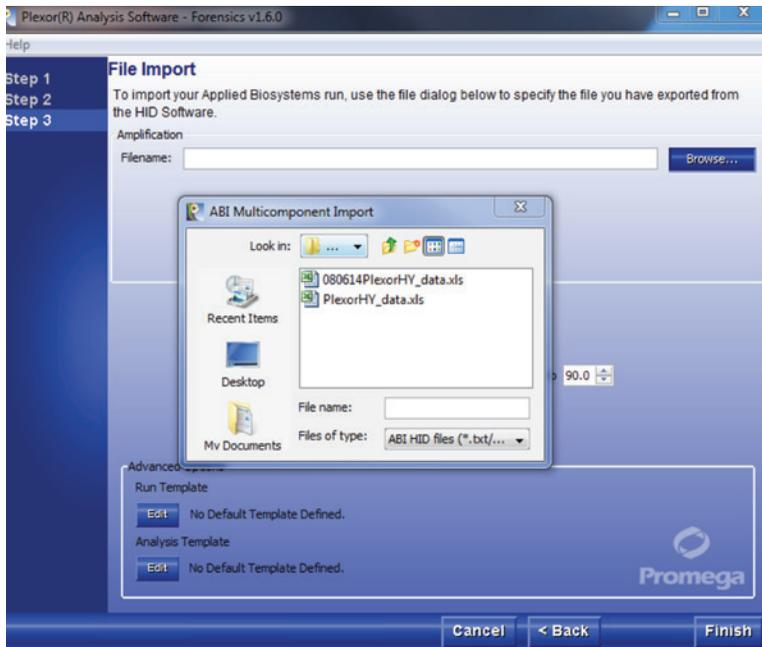

Figure 53. The File Import screen.
6. Import data file (Step 3). See Figure 53.